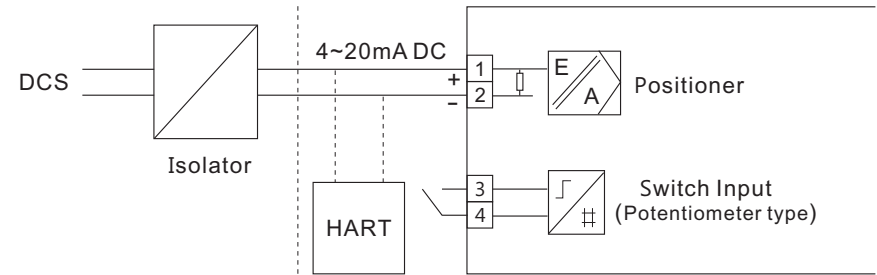

Fig 4-13 : Input electrical connection
4.4.4.1 Input electrical connecton (Fig 4-13)